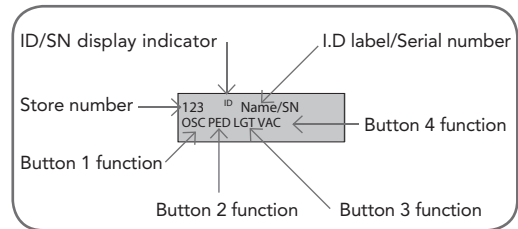

fig 32
The Dual Gate Controller can store up to thirty (30) transmitters in its memory. Each transmitter can be allocated an alpha-numeric ID label up to eleven (11) characters in length and each button can be assigned to one of several control functions. The settings for a transmitter are represented in (Fig. 32). It shows the transmitter's store number, ID label or serial number and the functions assigned to each of its four buttons. To toggle between ID/SN display, press UP/DOWN with the cursor on the ID/SN indicator. The procedures below code, delete, replace, edit and copy transmitter records.